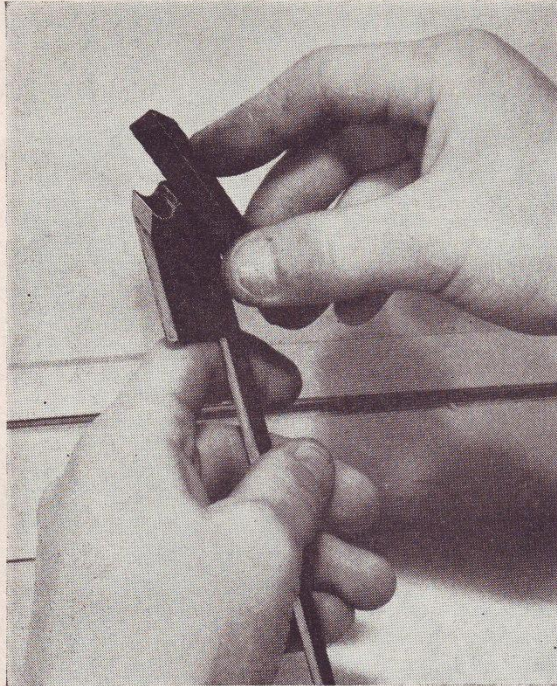
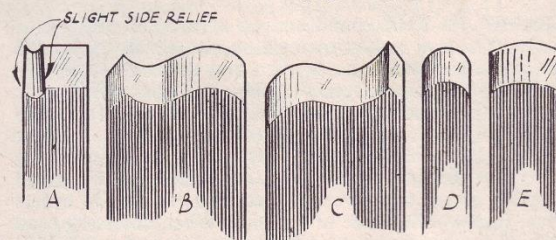

FIG. 1. MOULDING CUTTER BEING SHARPENED
FIG. 2. TYPICAL MOULDING PLANE CUTTERS
Oilstone slips of varying radii are used for sharpening as in Fig. 1. The slip should have a slightly quicker curvature than the cutter, and rubbing should be continued until a burr is turned up at the back. In some cutters more than one slip may be needed. Thus in (B), Fig. 2, a rounded slip is required for the hollow part, and a flat slip for the rest. The cutter should be repeatedly tried in the plane to see that the curvature follows the sole. In practice it will be found that those portions which operate at the lowest part of the sole need the greatest attention because they do the most work. Thus in the ogee cutter (C), Fig. 2, the square portion to the right is at the lowest part of the sole, and in operation for the entire moulding process, whereas the part to the left only begins to cut when the moulding is half finished or more.
A slight complication that does not arise with straight cutters is that a certain amount of relief is necessary at the sides. Thus at (A), Fig. 2, the sides have to be given a slight bevel, partly to give them a cutting action, but to avoid the rubbing which would otherwise occur. The flat part of the cutter can be rubbed on an ordinary flat oilstone.